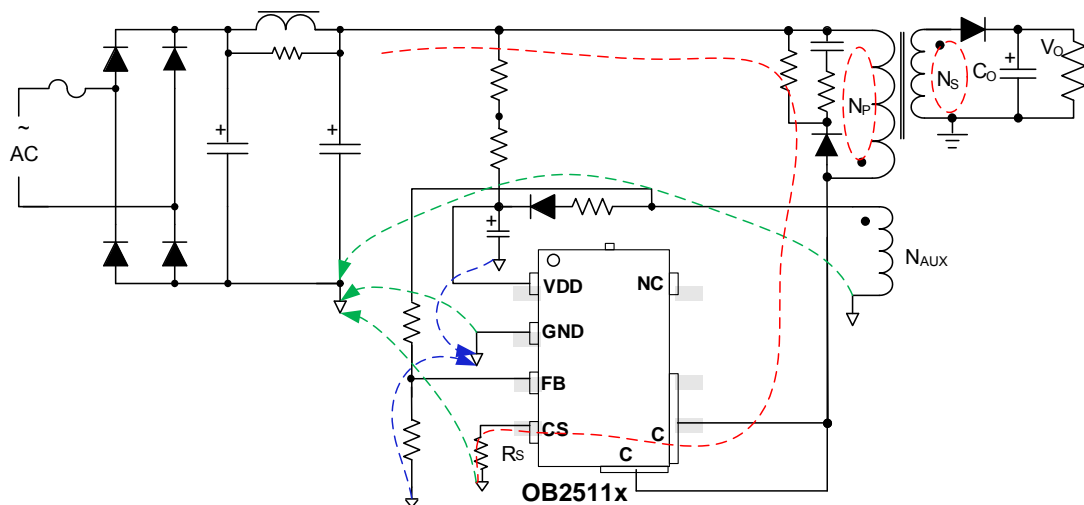
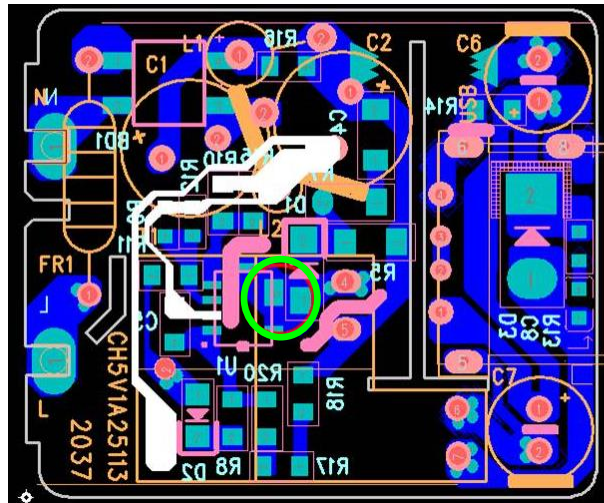

Fig.6 Flyback Schematic with OB2511x
Fig.7 Recommend PCB Layout of OB2511x
- **The Area of Power Loop:** The area of the main current loop should be as small as possible to reduce EMI radiation, such as the primary current loop, the snubber circuit and the secondary rectifying loop (Red wire as shows in Fig.6). Drain pin increases the copper area of the drain terminal for heat dissipation (Green region as shows in Fig.7). And the PCB trace must be wide and short for thermal consideration.
- **Bypass Capacitor and FB divider resistor:** The bypass capacitor on VDD and the FB divider resistor should be placed as close as possible to pin out. And the negative node of VDD capacitor and the FB down resistor should be connected directly to the IC GND pin before single point connected to the negative node of the output capacitor. (White region as shows in Fig.7)
- **Ground Path:** The GND path of the input power loop and IC controller path should be separated and connected at the negative terminal of input capacitor by single point, such as power sense resistor, the negative of the auxiliary winding and the IC GND. (White region as shows in Fig.7)